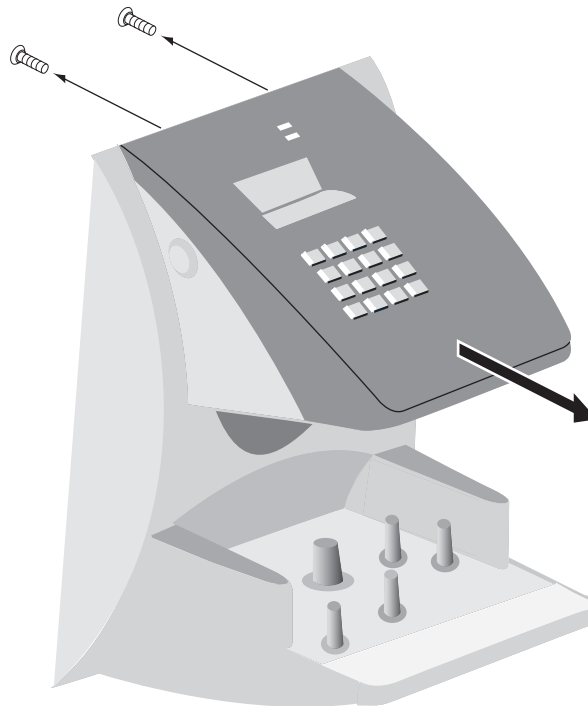

Figure 5
7. Remove the two screws that hold the top panel assembly to the front case. Carefully slide the top panel out from the front case. See figure 5 below.